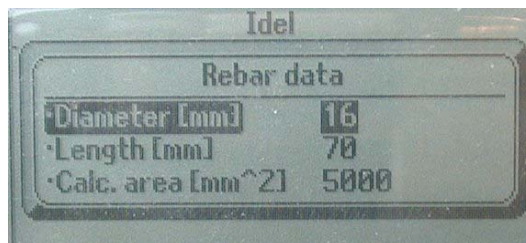

Fig .13. Rebar display
- b. Select *Rebar* and press *Enter*. Fig. 13.